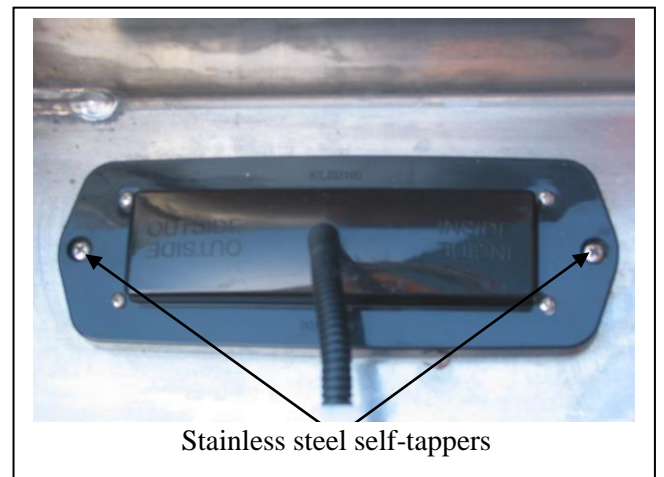

Figure 12
23. Fit ECB LED indicator / park lights into protection bar as per instructions supplied with the LED indicator kit. **NOTE: Ensure park light is to outside. See figure 12.**